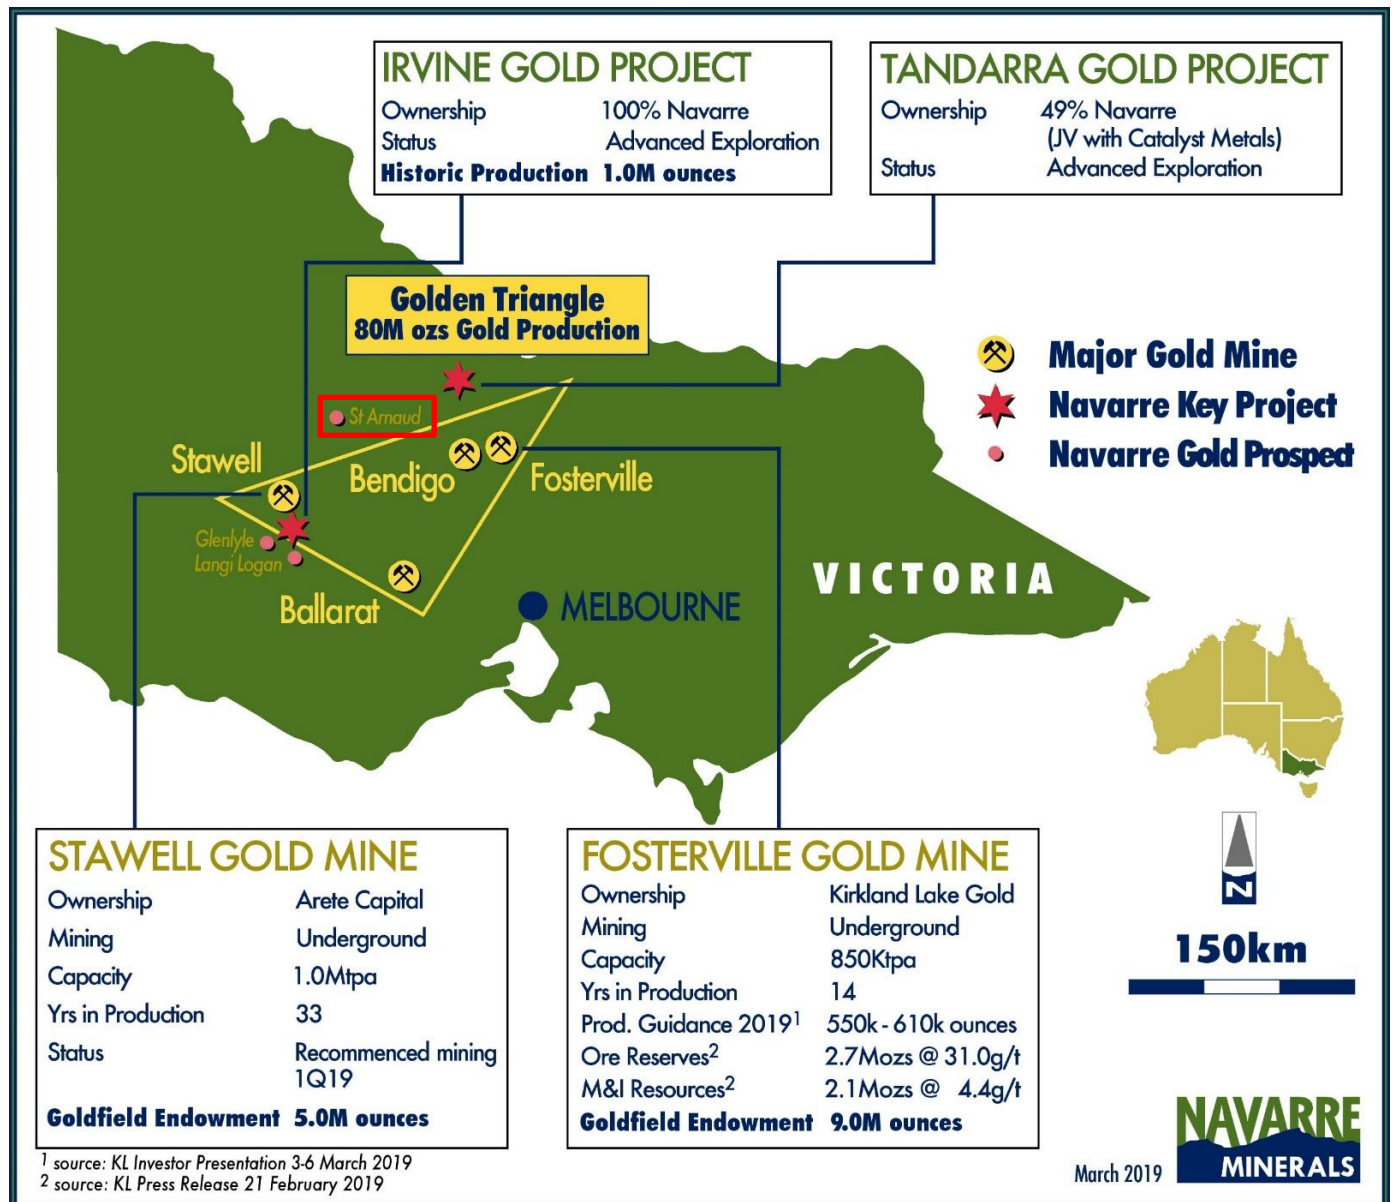

Figure 1: Location of Navarre's Victorian gold projects
Navarre Minerals Limited (Navarre or the Company; ASX: NML) is pleased to announce significant gold and silver intersections from its recently completed air-core (AC) drilling program at its 100%-owned St Arnaud Gold Project, 250km northwest of Melbourne in Victoria (Figure 1).
Navarre Minerals Limited (ASX: NML) is an Australian-based resources company that is creating value from a portfolio of early to advanced stage gold projects in Victoria, Australia (Figure 1).